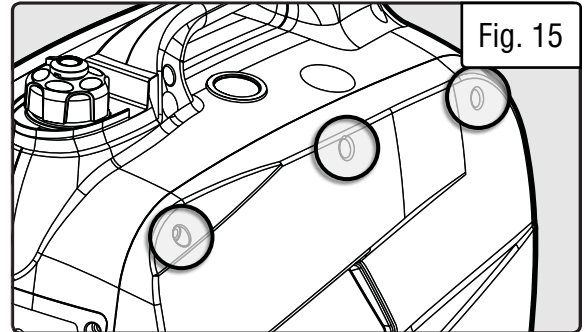

Fig. 15
2. Using a Phillips-head screwdriver (not included), remove the service panel by unscrewing the three Phillips-head screws (Fig. 15) along the upper edge.
1. Using a Phillips-head screwdriver (not included), remove the service panel by unscrewing the three Phillips-head screws (Fig. 15) along the upper edge.